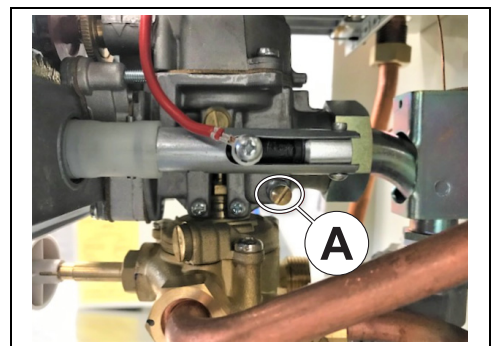

Fig. 9 Inlet measurement test point
- ▶ Turn off the gas to the appliance, remove the sealing screw of the pressure test point on the right hand side of the gas valve (Fig. 9, [A]) and attach a manometer.